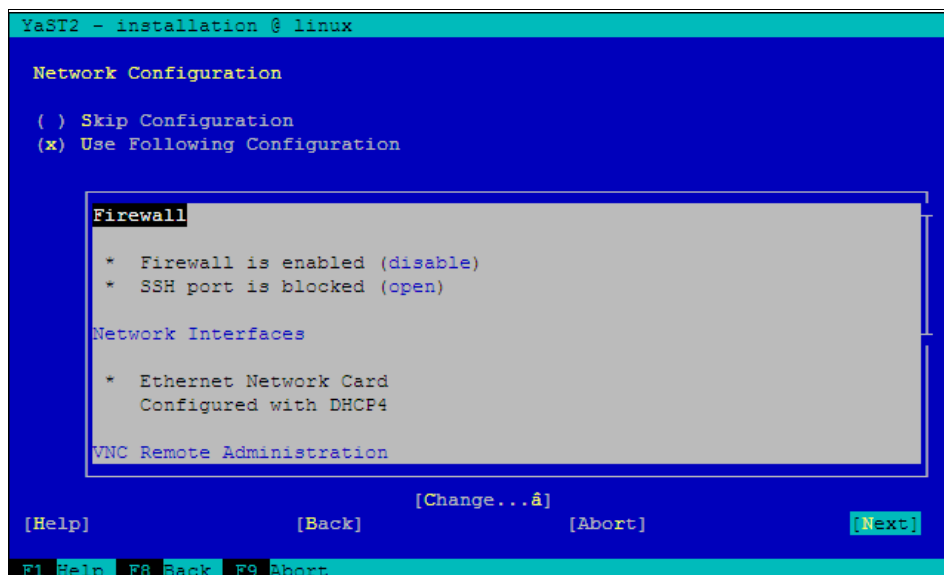

Figure 9-28 Change network configuration
21. Select **Use Following Configuration** in the Network Configuration window (Figure 9-28 on page 388) and verify that the Firewall is marked as **enabled**. Press the Tab key to **[Change....]** to change the Secure Shell (SSH) port settings to open.